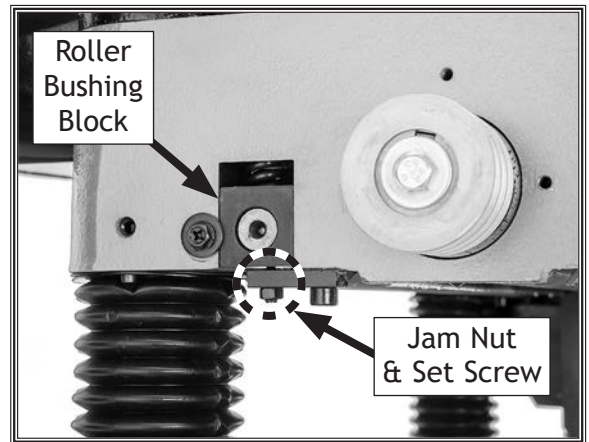

Figure 48. Example of infeed roller bushing block and height adjustment controls.
8. Loosen jam nuts and use set screws on each side of feed roller (see **Figure 48**) to adjust height of infeed roller bushing block until Rotacator dial shows 0.040", which is the recommended distance for infeed roller below cutterhead.